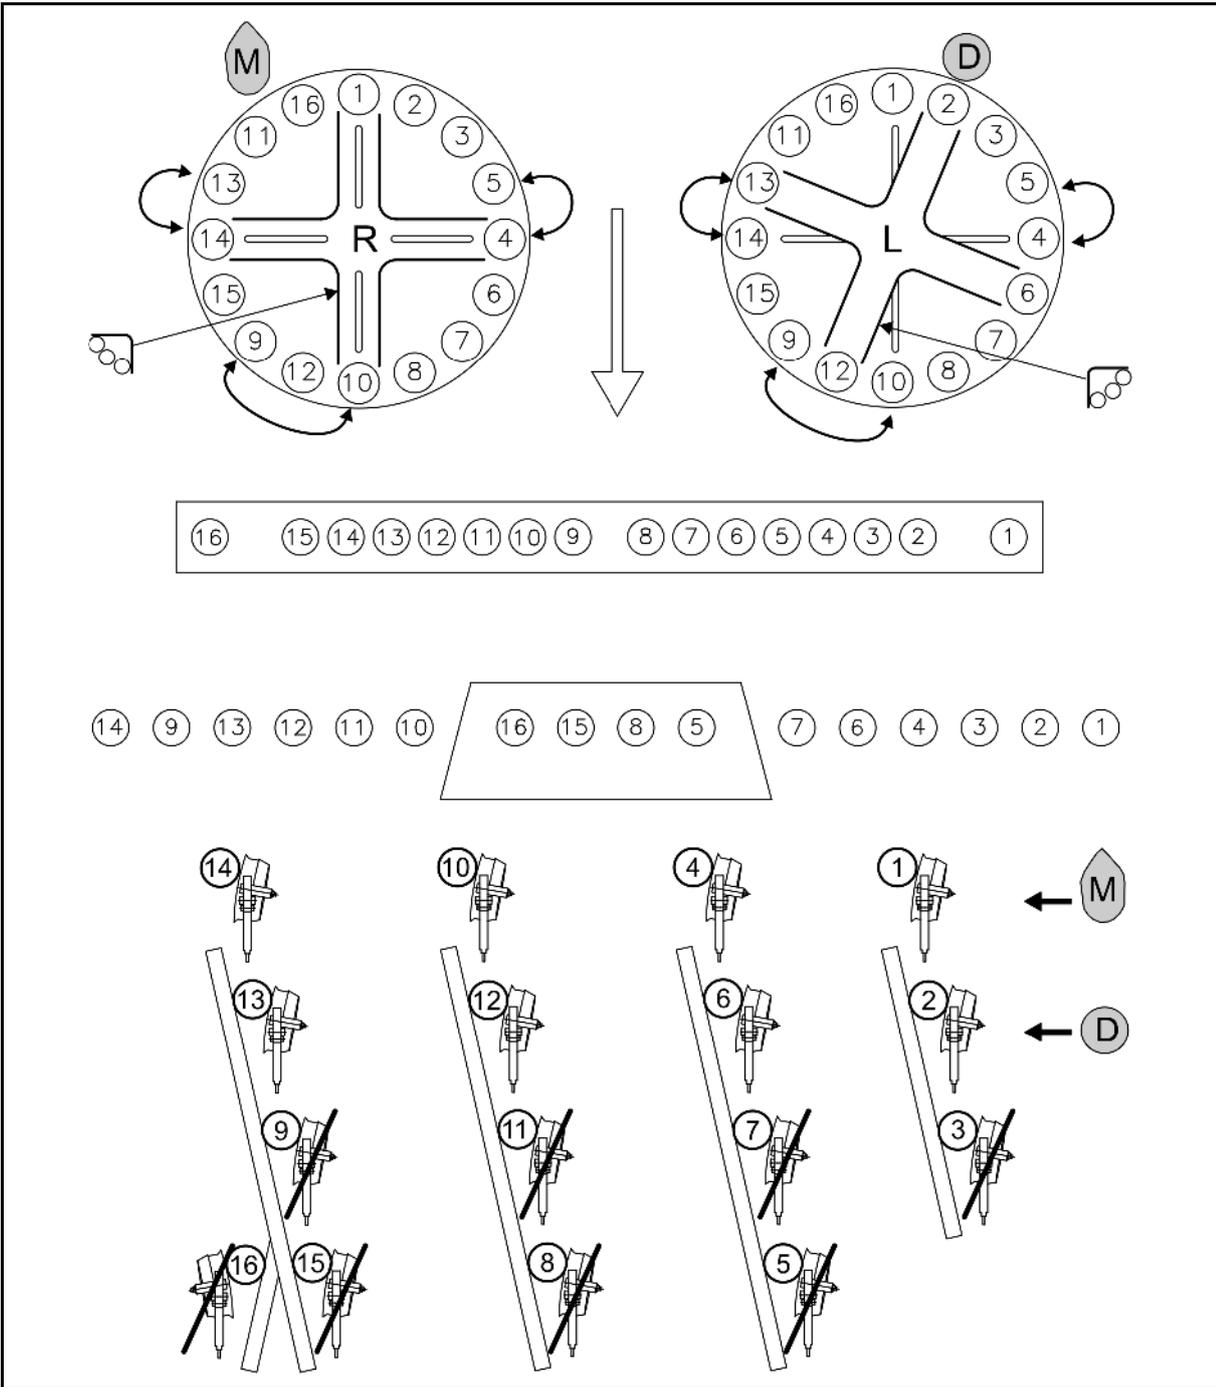

Fig. 36
- Maize M: Install the locking plates according to Fig. 36